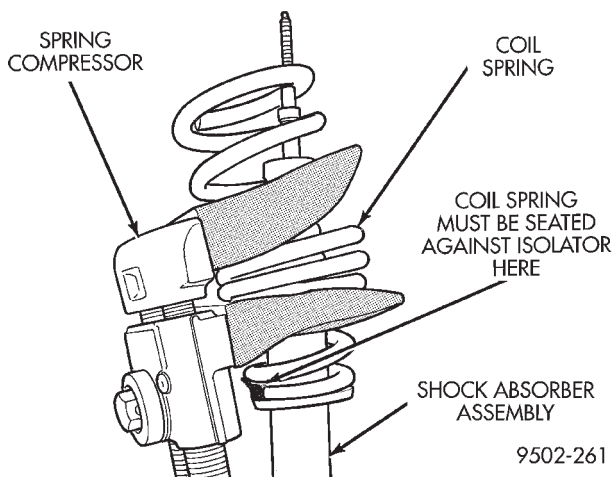

Fig. 94 Shock Absorber Coil Spring And Compressor
(12) Remove the coil spring and spring compressor as an assembly (Fig. 94) from the shock absorber assembly. **Mark springs, left and right, for installation back on the correct side of the vehicle.**
(4) Install the coil spring (with small diameter coils down) and spring compressor on the shock absorber assembly. Be sure bottom coil of spring is correctly positioned on the lower spring isolator (Fig. 94).